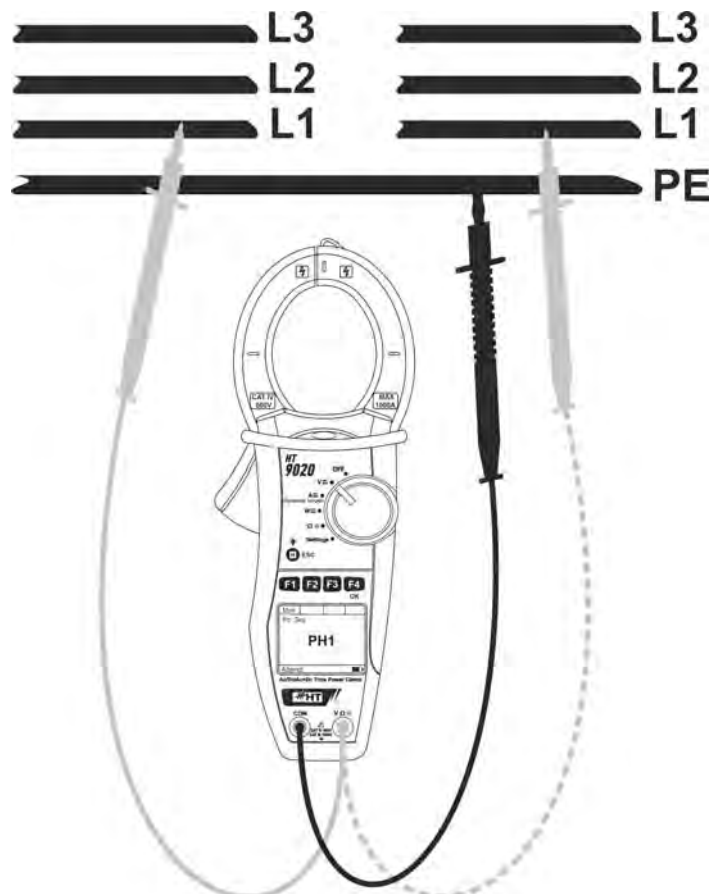

Fig. 8: Verification of phase conformity
2. Connect the red cable to the input lead **VΩ** and the black cable to the input lead **COM** then position the leads respectively to the L1 phase of the first system and the ground reference PE of the circuit under test (see Fig. 8)